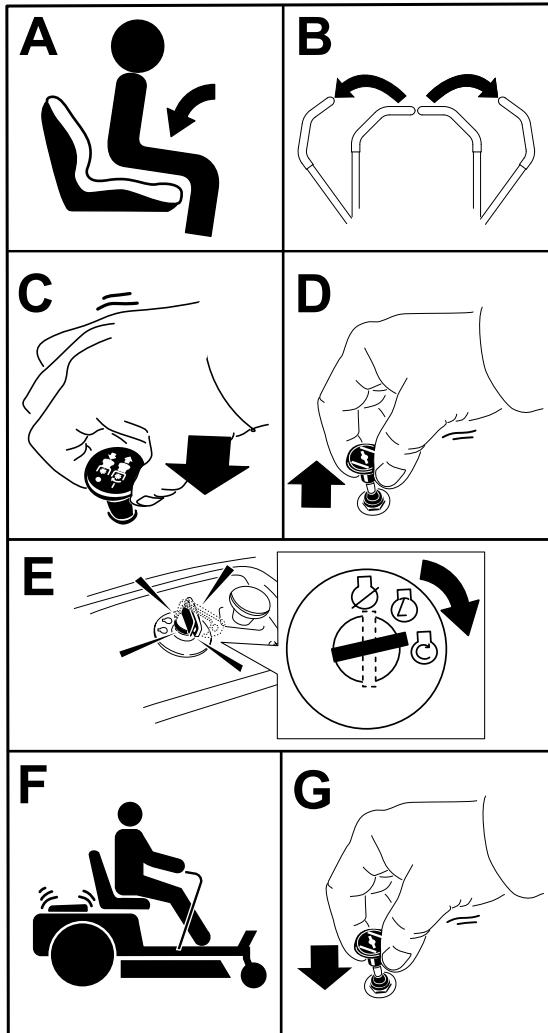

Figure 19
1. Disengage the blades by moving the blade-control switch to the OFF position (Figure 19).